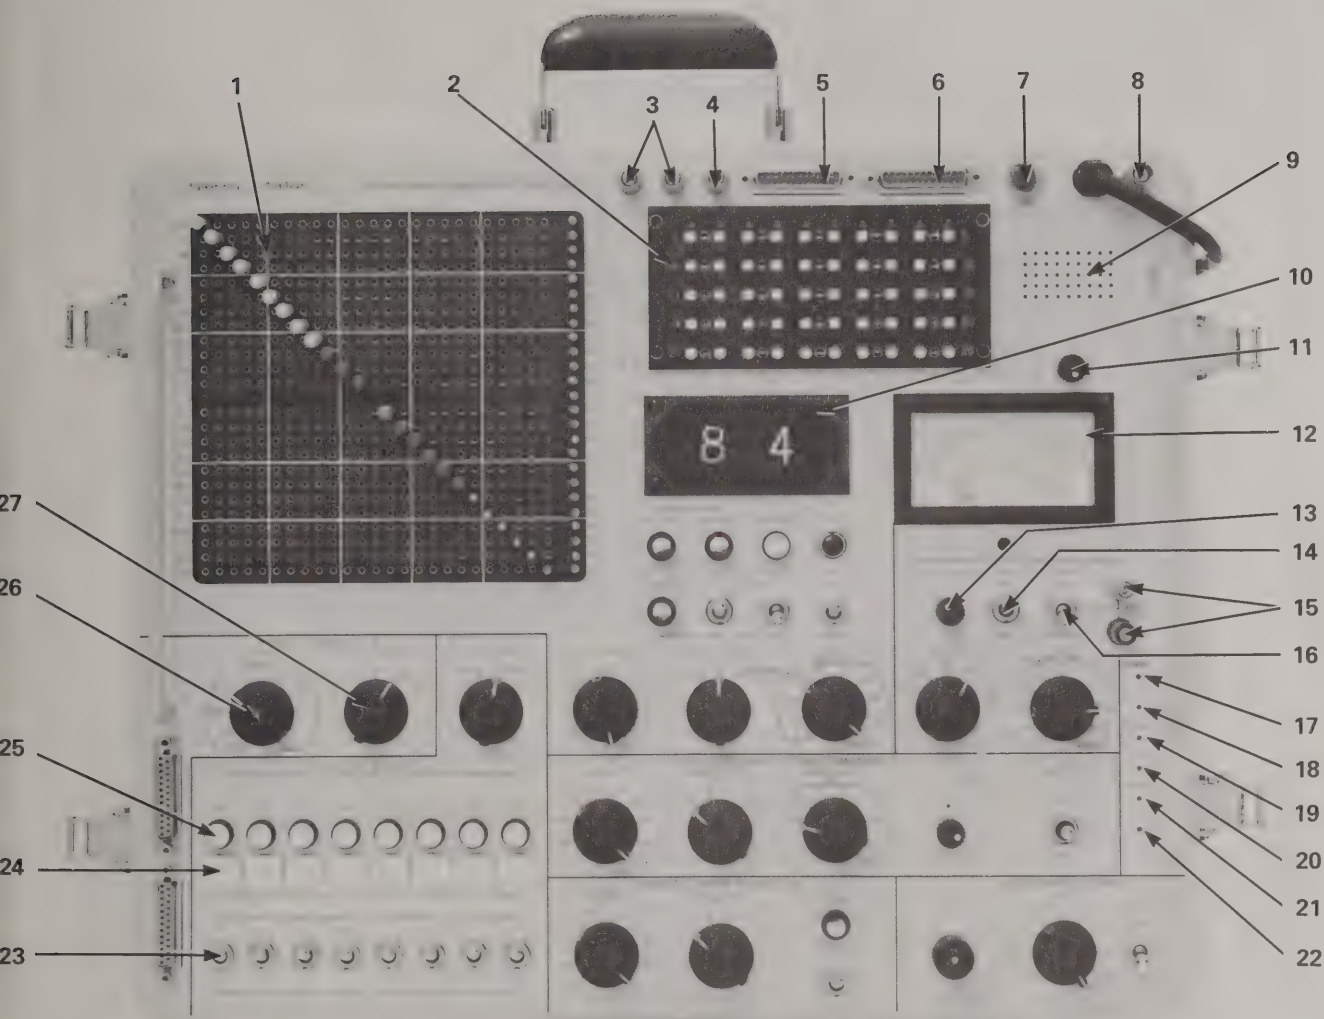

Figure 2-1. Sierra 1914C Data Transmission Test Set, Front Panel (1)
**2.02** The front panel of the 1914C is shown in Figures 2-1 through 2-3. The function of all controls, switches, and indicators is given in Table 2-1. The program matrix provides access to the interface of the data set under test. The 25 vertical buses connect to the interface; the 24 horizontal buses connect to the 1914C test circuits. Connections from the input or output of the test circuits to the data set interface are made by inserting programming